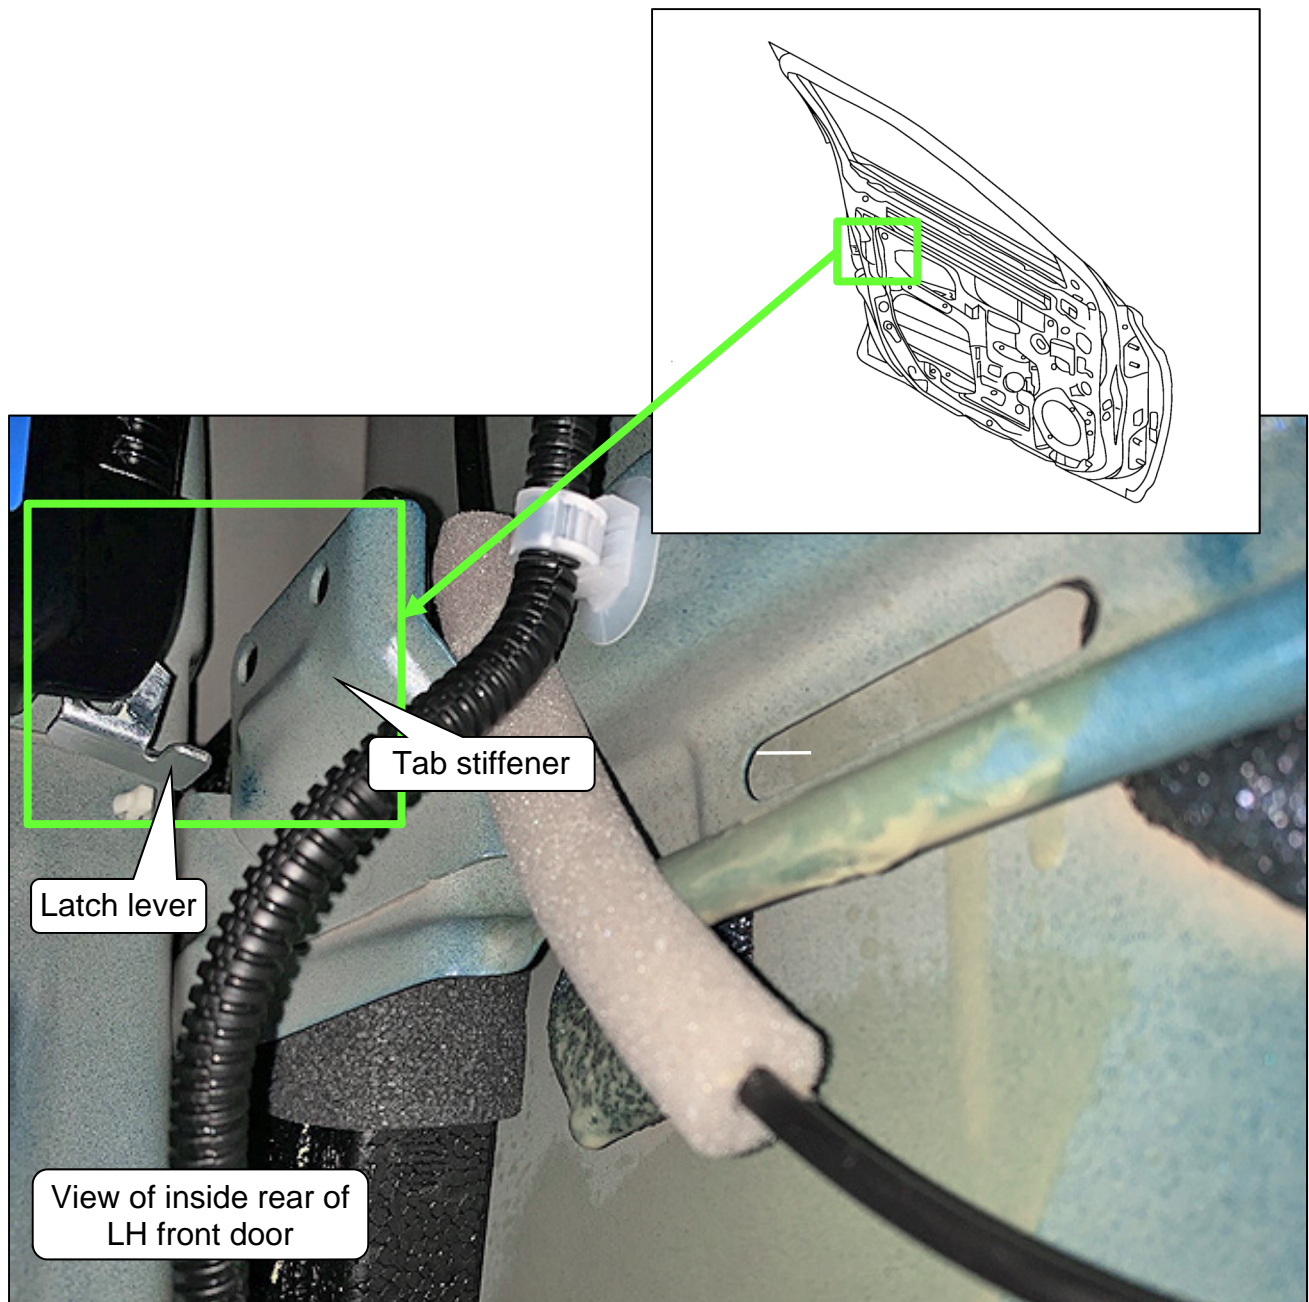
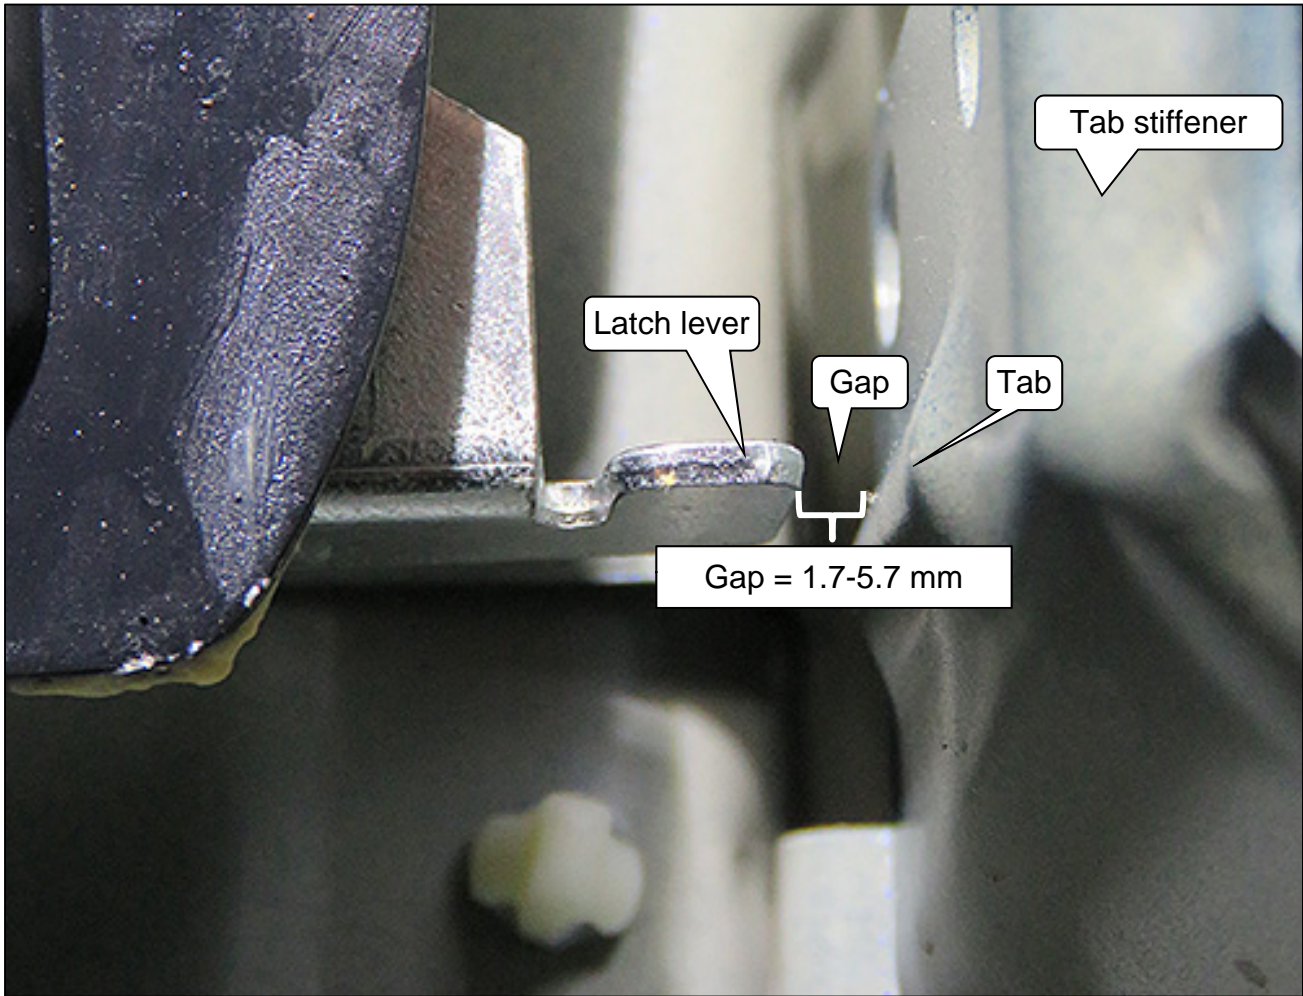

Figure 2
Figure 3
- Refer to Figure 2 below, and Figure 3 on the next page.
6. With the latch lever and tab still level with each other (Figure 3), measure the gap between the latch lever and the tab.